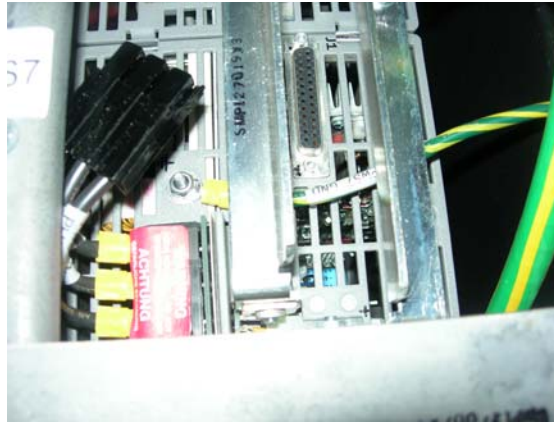

Figure 30 Routing the Ground Wires
12. Disconnect the three (3) green and yellow striped ground wires from the power supply. There is one ground wire per bank. Route/position the ground wires underneath the bus bars. (Refer to Figure 30.)